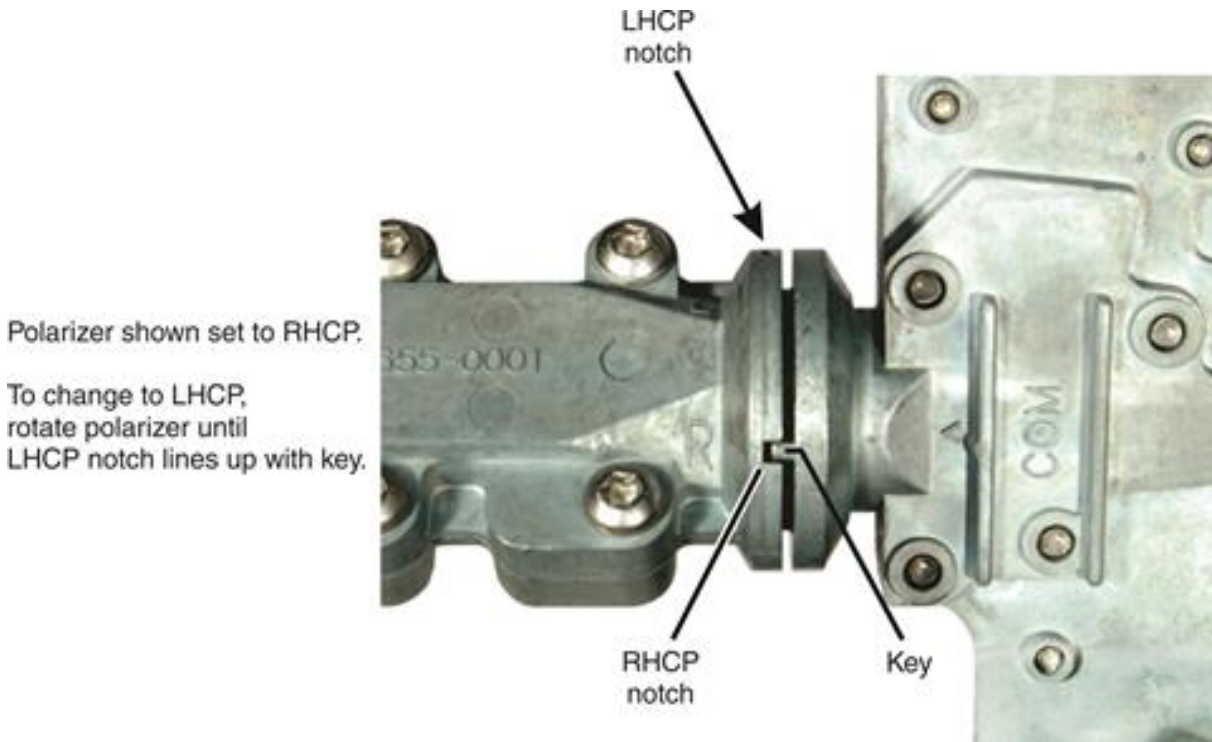

Figure 16: Adjusting circular polarization (clamp removed)
2. Separate the polarizer from the TRIA and reposition it so that the marker on the TRIA aligns with L for LHCP or R for RHCP, as shown in Figure 16 on page 35.